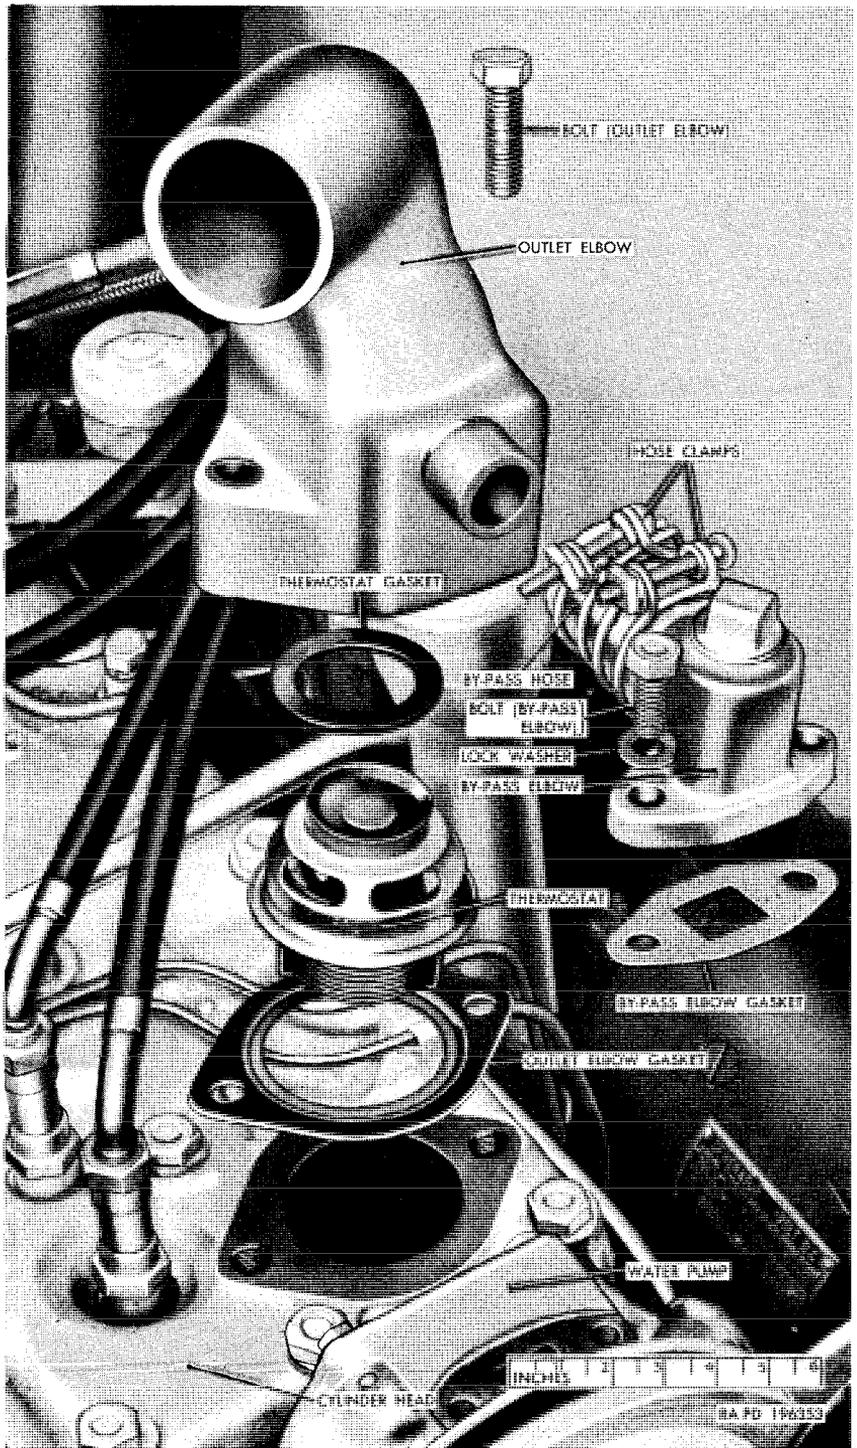

Figure 120. Water outlet elbow, thermostat, and related parts.
- (1) Remove the two bolts and lockwashers attaching the water pump bypass elbow to the water pump (fig. 120).
- (2) Loosen the two hose clamps and remove the bypass elbow and hose. Remove the clamps and discard the bypass hose and bypass elbow gasket.
- (3) Install a 1 (ID) x 1⅝ hose on the water pump bypass elbow. Install a 1⅜-inch hose clamp on each end of the hose.
- (4) Clean both gasket contacting surfaces, and install a new water pump bypass elbow gasket on the water pump. Install the bypass elbow hose on the engine outlet elbow, and align the bolt holes in the elbow flange with those in the gasket and water pump. Install the two ⅝-18NC x ¾ bolts with ⅝-inch lockwashers through the bypass elbow and gasket. Tighten bolts evenly.
- (5) Position both clamps and tighten screws.
- (6) Fill the cooling system (par. 148b).
- (3) Remove the two bolts and lockwashers that attach the water pump bypass elbow to the water pump (fig. 120).
- (4) Remove the two bolts that secure the engine water outlet elbow to the cylinder head, and remove the outlet elbow and bypass elbow as a unit. Remove and discard the bypass elbow gasket.
- (5) Remove the thermostat, the thermostat gasket, and the outlet elbow gasket. Discard gaskets.
- (1) Clean the gasket contacting surfaces and hose contacting surfaces thoroughly. Apply a coating of liquid-type gasket cement to both sides of a new outlet elbow gasket and a new bypass elbow gasket (fig. 120).
- (2) Install the outlet elbow gasket on the cylinder head and the bypass elbow gasket on the water pump.
- (3) Install a new thermostat gasket on top of the thermostat, and install the thermostat in the cylinder head with the word FRONT toward the radiator and coils of thermostat down into block.
- (4) Mount the assembled elbows in position and install the two $\frac{3}{8}$ -16NC x 2 bolts in the outlet elbow and the two $\frac{5}{16}$ -inch lockwashers and $\frac{5}{16}$ -18NC x $\frac{3}{4}$ bolts in the bypass elbow. Tighten all bolts evenly.
- (5) Apply liquid-type gasket cement to the outlet elbow at the hose connection. Install the radiator inlet hose on the elbow, and tighten the hose clamp.
- (1) Drain the cooling system (par. 148*a*).
- (2) Remove fan and related parts (*a* above).
- (3) Remove the two bolts and lockwashers that secure the bypass elbow to the water pump (fig. 120).
- (4) Remove the three bolts and lockwashers that secure the water pump to the cylinder block, move the generator adjusting arm out of the way, and remove the water pump.
- (5) Remove and discard the water pump gasket and the bypass elbow gasket.
- (6) If the generator adjusting arm is to be replaced, remove the bolt and plain washer that secures the arm to the generator, and remove the arm.